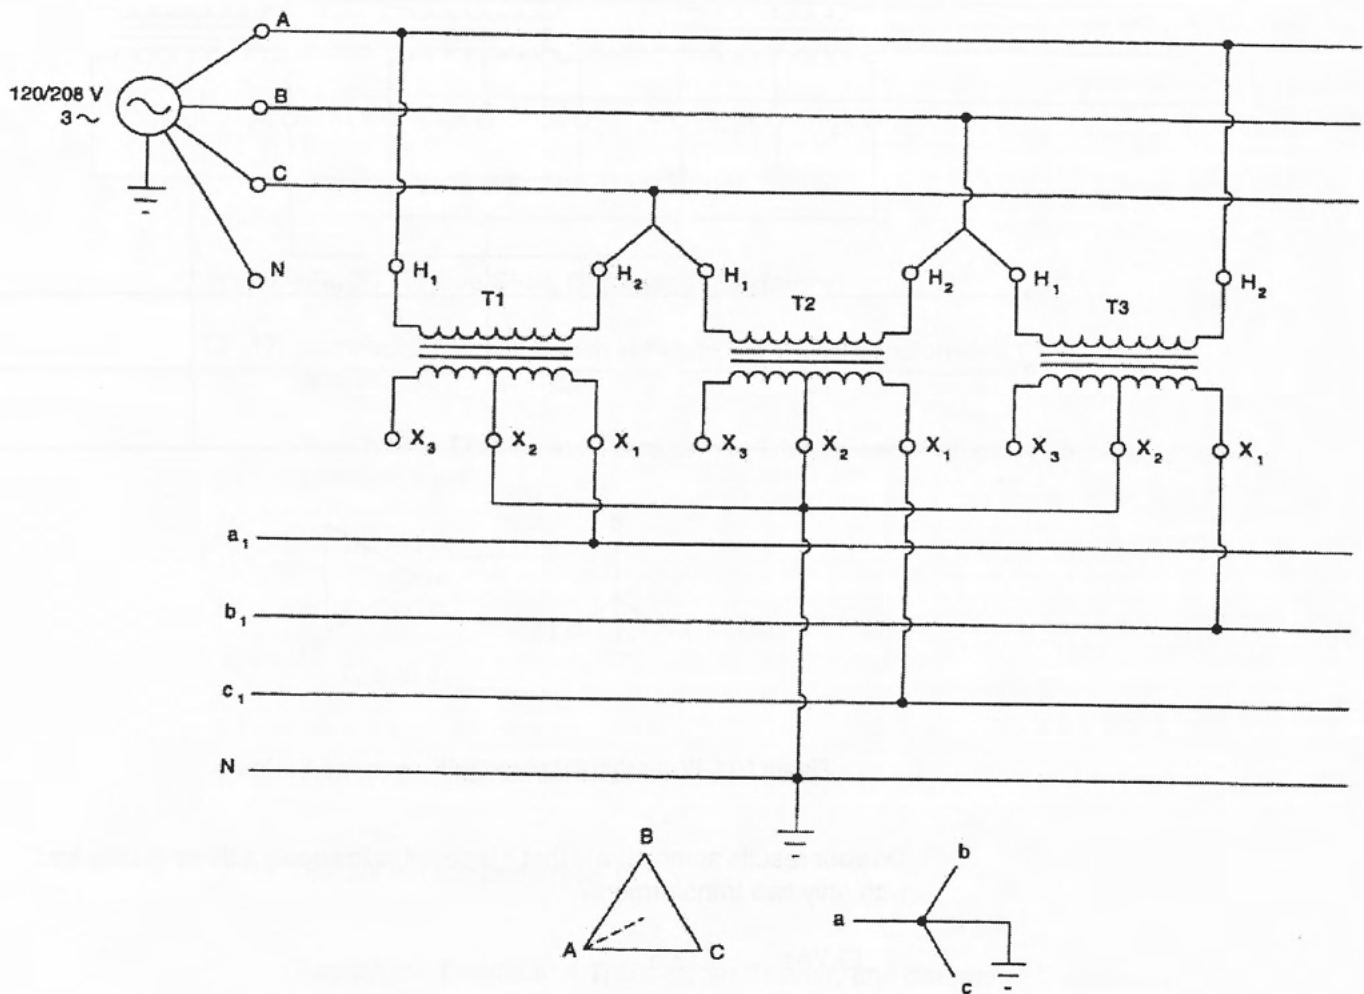

Figure 1-15. Delta-wye, 30° phase shift.
- 18. Connect the circuit shown in Figure 1-15. Use transformers T1, T2 and T3 and lines a_1 , b_1 , and c_1 and N.